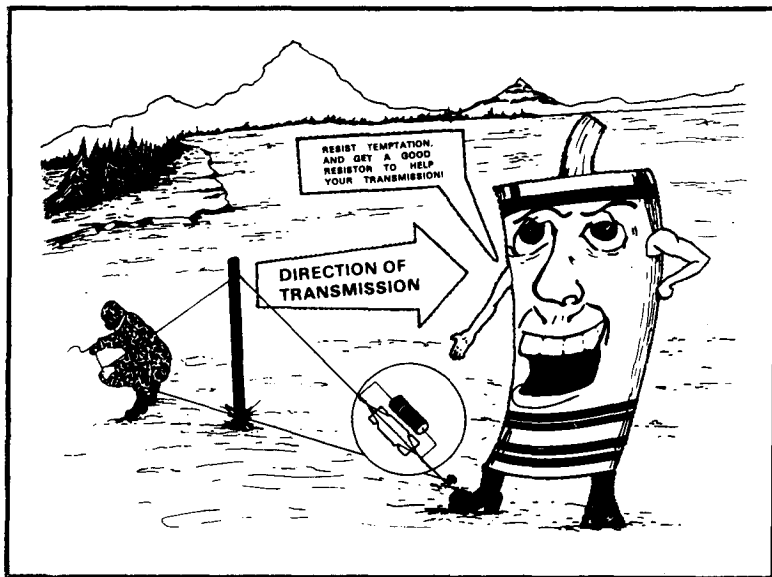

Figure 3-21. Proper resistor.
e. Building a good field-expedient vertical half-rhombic antenna calls for a good resistor, not a dead BA-30 battery or a C-rat can full of sand and oil. Plan ahead. If you can, lay in a supply of the 600-ohm 2-watt resistors. Since 600-ohms is not a standard resistor value, you have a choice. Get a 620-ohm, 2-watter with NSN 5905-00-407-6167, or wire 2 1200-ohm, 1-watt resistors in parallel. Get them with NSN 5905-00-369-6916. Then, follow the directions on how to fabricate antennas. Put the resistor on the end nearest your receiving station. Remember, resistor wattage must beat least half of the radio's output wattage. (See Figure 3-21.)